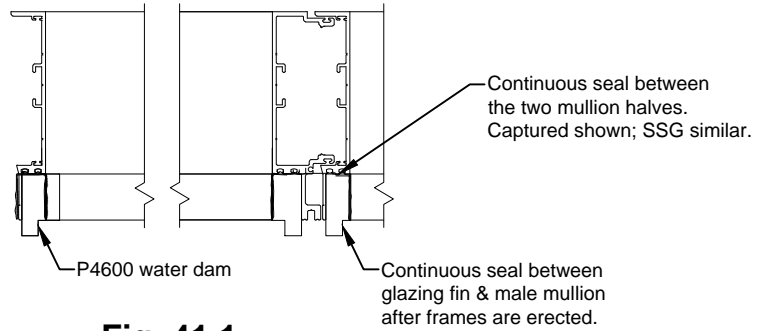

Fig. 41.1
- A. For pre-sealing captured mullion frames: Water dams can be pre-applied to each bay in the shop before transporting to the jobsite. Follow the same sealing procedures as with a captured system noted above. See Fig. 41.1.